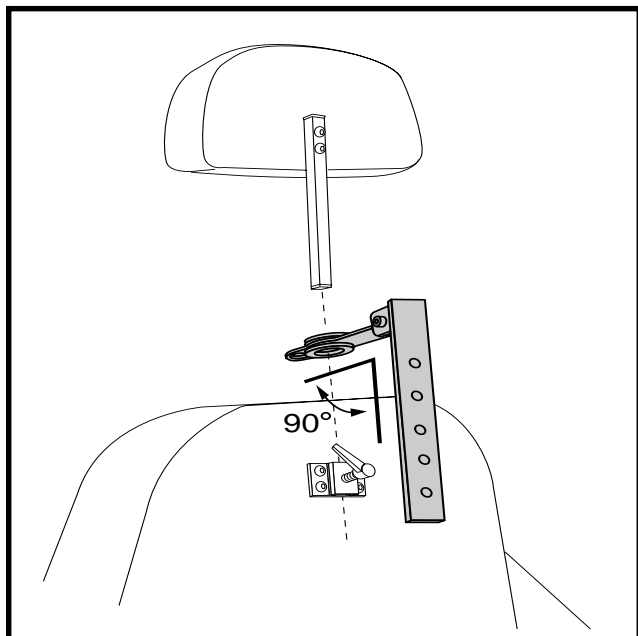
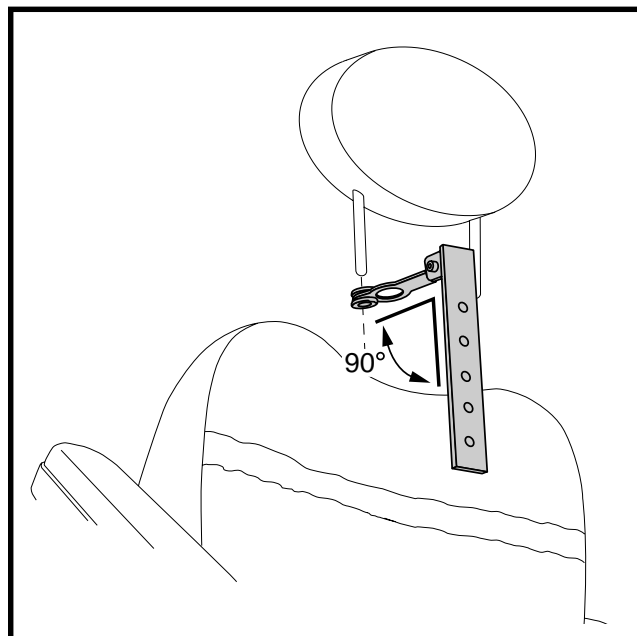
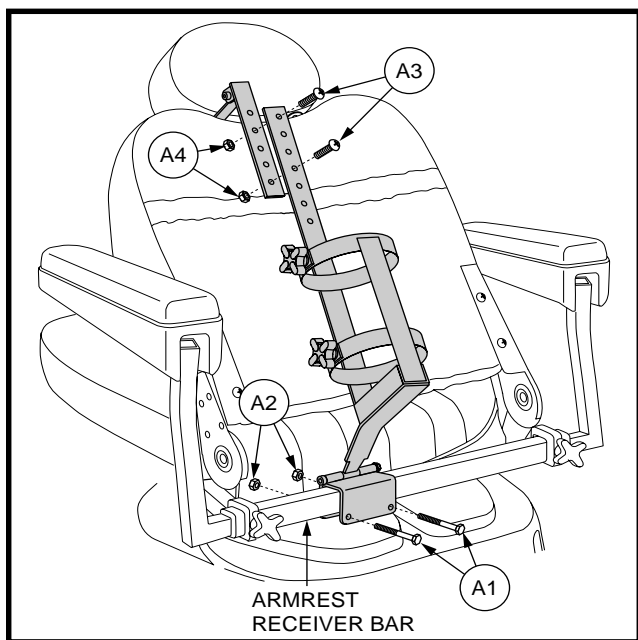

Figure 2a. Single-post Headrest Bracket
Figure 2b. Dual-post Headrest Bracket
Figure 3. Assembly View
6. If the chair has a single-post headrest bracket, insert the headrest through the larger hole in the top link weldment (see figure 2a). If the chair has a dual-post headrest bracket, insert the left receiver of the headrest through the small hole of the top link weldment (see figure 2b).
7. Install the hinge bracket of the assembled oxygen tank holder directly on top of the armrest receiver bar and secure with the supplied hardware (**A1** and **A2**). See figure 3.
8. The height of the oxygen tank holder may need to be adjusted to ensure that the angle of the top pivot bracket is approximately 90° when the seatback is in the upright position. (See figure 2a or 2b.) If adjustment is needed, remove the hardware (**A3** and **A4**), adjust the height of the bracket, realign the holes, and reinstall the hardware (**A3** and **A4**). See figure 3.